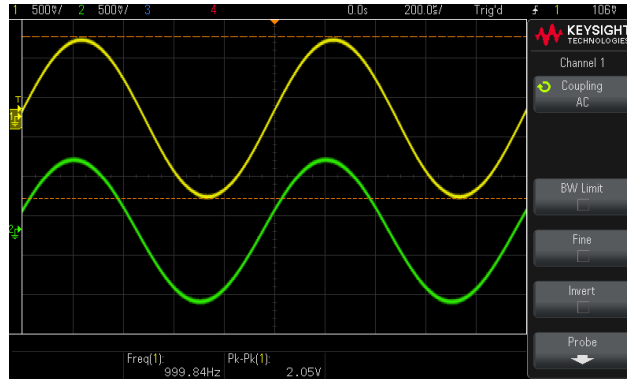

Figure 10 – Display Showing Two Channels
- The oscilloscope in **Figure 4** has four separate input channels, allowing four different signals to be displayed on the screen simultaneously (**Figure 10** shows an example with two signals).
- The vertical position dial allows each signal to be shifted up and down independently of one another. This can be done to separate overlapping signals and to position the signals to make it easier to estimate their amplitudes. In **Figure 10**, the green signal (channel-2) has been shifted slightly lower than channel-1.
Answer the following questions given the display in **Figure 10** (12 divisions on the x-axis and 8 divisions on the y-axis) and the sec/div and Volts/div knobs in **Figure 5** and **Figure 6**.